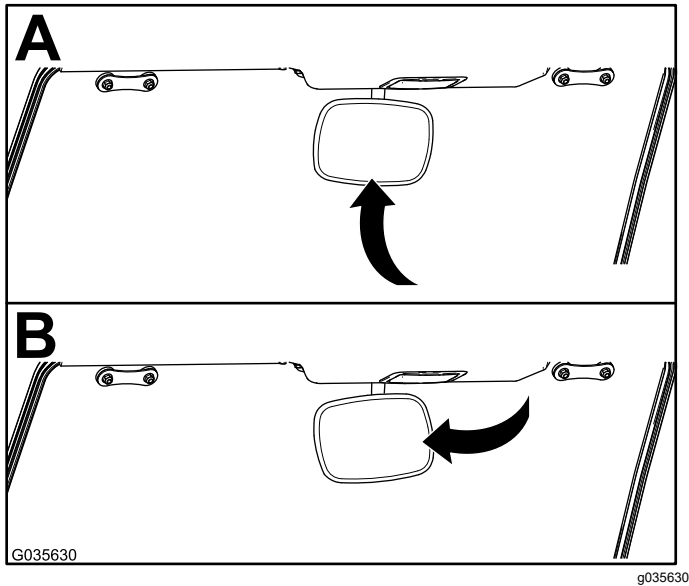
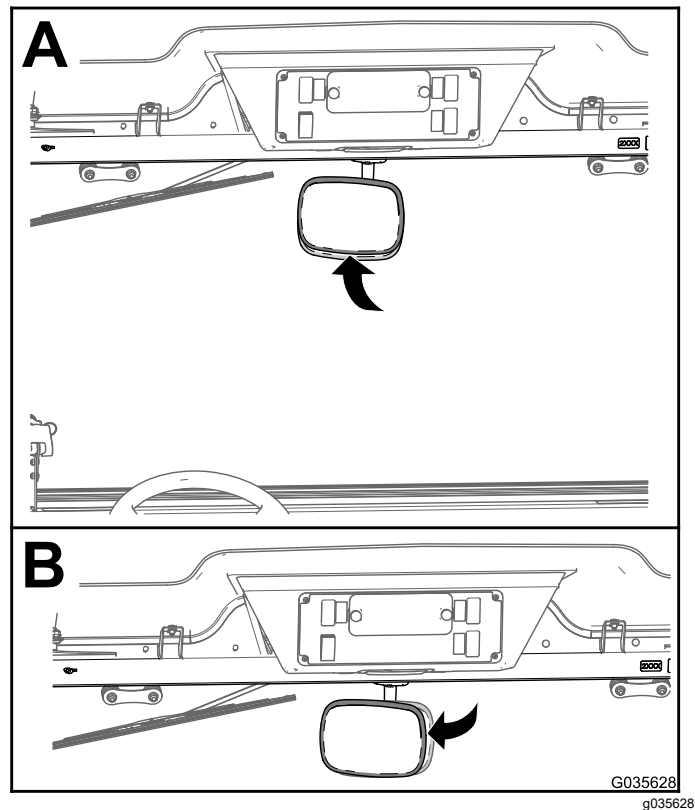

Figure 7
Figure 8
1. Use 2 hands to rotate the mirror up or down on its ball mount (A of Figure 7 or Figure 8).
2. Use 2 hands to rotate the mirror left or right on its ball mount (B of Figure 7 or Figure 8).